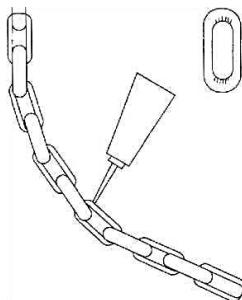

Fig.4.5
c) Lubricate each link of chain connection and load pulley. After the lubrication, lift the chain up and down without load in order to daub lubrication equably. (Fig.4.5)